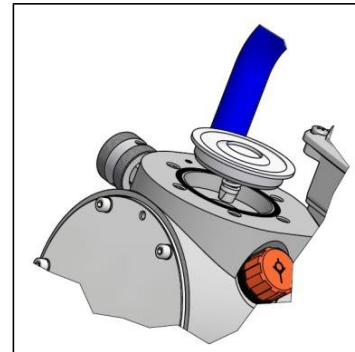

Fig.10.1.6
4. (Fig.10.1.6) Membrane is also upwardly removed. It should be ensured that no contaminants enter the pump